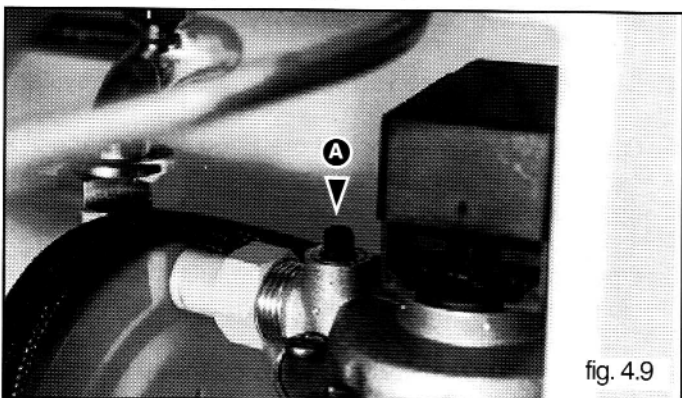

fig. 4.9
- Using a flow meter, set the flow on 13 lts/min (3.43 gals/min) by turning screw "A" (see fig. 4.9).